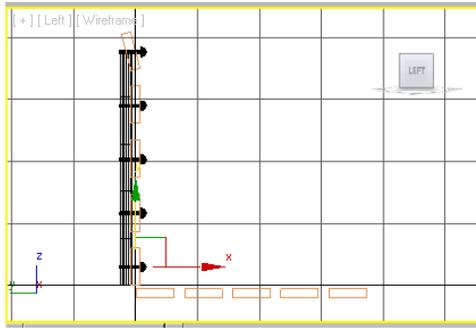

Figure 2-71 Alignment of rivets in the Left viewport
4. In the Left viewport, select *rivet001* using the **Select and Move** tool and move the cursor over the vertical axis. Now, create 4 copies of *rivet001*. These copies are automatically named as *rivet002*, *rivet003*, *rivet004*, and *rivet005*. Align them in the Left viewport, refer to Figure 2-71.